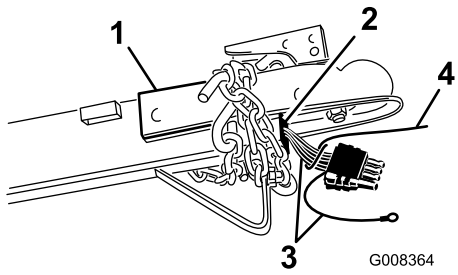

Figure 3
4. Secure the wire in the tongue to the wiring harness on the trailer and pull the wiring harness through the length of the tongue using the wire (Figure 3). Remove the wire from the harness.